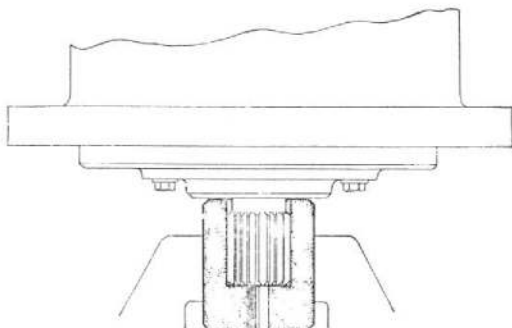

Fig. 22. Clutch assembly in holding fixture
- ◀ (2) Remove the O-ring housing and two O-rings from the top of the flange of the bearing housing (7A, fig. 22, Sect. 2, Chap. 1). ▶
- (2) Locate the final drive shaft in the final drive shaft locking block MK 3860 (fig. 22) and remove the four Allen screws from the adjuster ring.
- (3) Using spanner MK 3390 unscrew and remove the adjuster ring.